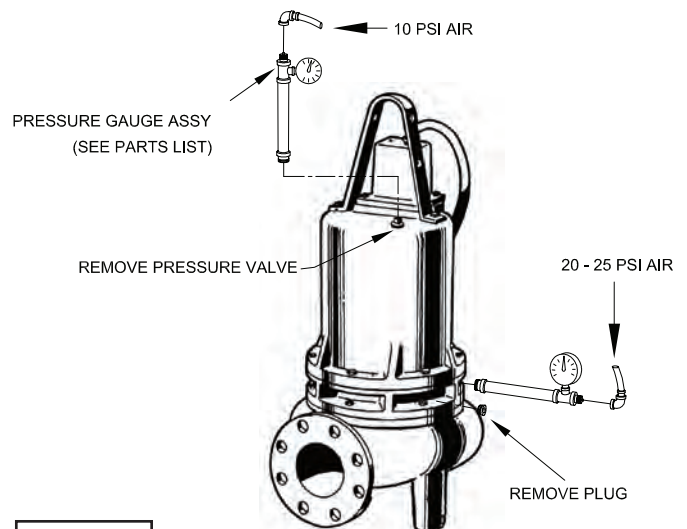

FIGURE 2
Motor Housing - Before checking the pump for leaks around the shaft seal, square rings, and cord inlet, the oil level should be full as described in section F-1.3. Remove pressure valve (5) from motor housing (2). Apply pipe sealant to pressure gauge assembly and tighten into pressure valve hole (See Fig. 2). Pressurize motor housing to 10 P.S.I. Use a soap solution around the sealed areas and inspect joints for "air bubbles". If, after five minutes, the pressure is still holding constant, and no "bubbles" are observed, slowly bleed the pressure and remove the gauge assembly. Replace the Pressure valve using a sealant. If the pressure does not hold, then the leak must be located.